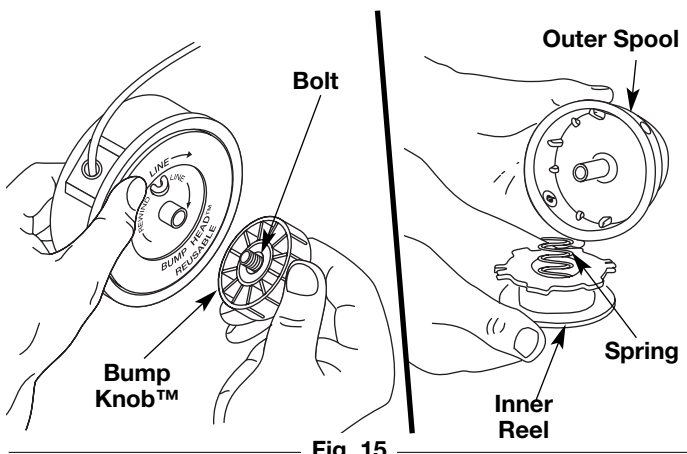

Fig. 15
1. Hold the outer spool with one hand and unscrew the Bump Knob counterclockwise (Fig. 15). Inspect the bolt inside the bump knob to make sure it moves freely. Replace the bump knob if damaged.
2. Remove the inner reel from outer spool (Fig. 15).
3. Remove spring from the inner reel (Fig. 15).
- Hold the outer spool with one hand and unscrew the bump knob counterclockwise. Inspect the bolt inside the bump knob to make sure it moves freely. Replace the bump knob if damaged (Fig. 15).
- Remove the old inner reel from the outer spool (Fig. 15).
- Remove the spring from the old inner reel (Fig. 15).